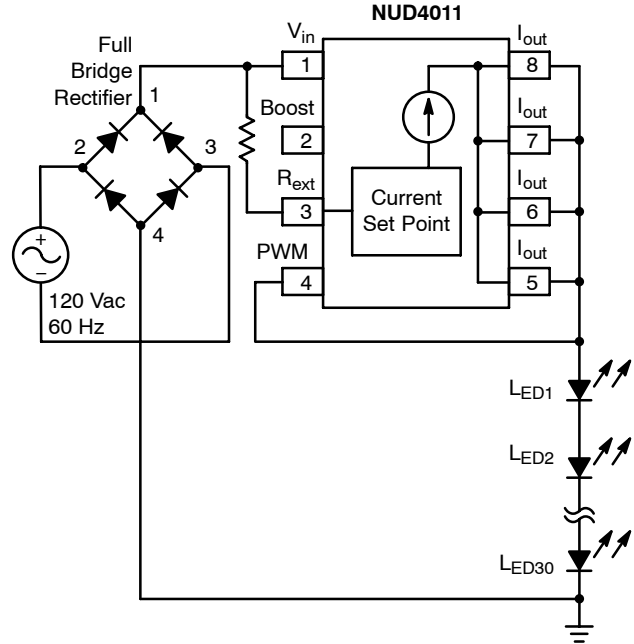

Figure 6. 120 Vac Application
- Per example in Figure 6,
Since a full bridge rectifier is being used (per Figure 6), the frequency of the voltage signal applied to the NUD4011 device is now 120 Hz. To simplify the calculation, it is assumed that the 120 Hz waveform is square shaped so that the following formula can be used: